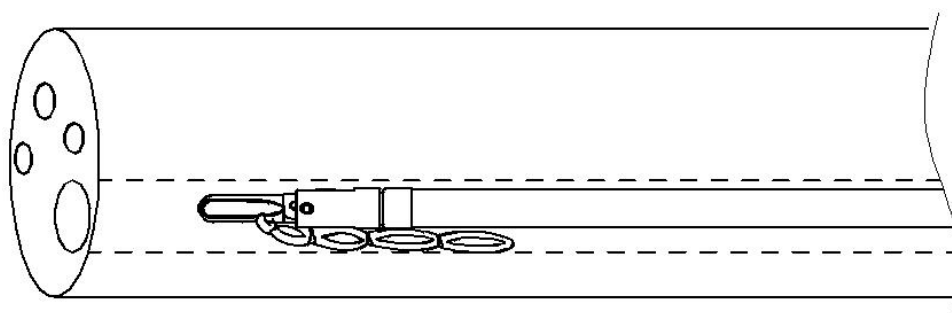

Fig.3
1. Open the pouch and remove slider blister from the distal portion of the clip to expose the clip with the pre-loaded elastic ring. Carefully insert the device into the endoscope channel, ensuring that the clip is in the closed position (Fig.3).